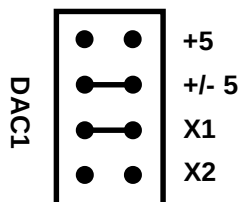

Fig. 1-2 — DAC Output Voltage Range Jumpers, P3 Through P10
These eight header connectors individually set the output voltage range for the eight DAC channels at 0 to +5, ± 5 , 0 to +10, or ± 10 volts. Two jumpers must be installed on each header, one to select the range and one to select the multiplier. The top two jumpers select the range, bipolar (± 5) or unipolar (5). The bottom two jumpers select the multiplier, X2 or X1. When a jumper is on the X2 multiplier pins, the range values become ± 10 and 10. The table below shows the four possible combinations of jumper settings for each DAC channel, and Figure 1-2 shows the factory setting for DAC1 (P3). NOTE: At power up or CPU reset, the analog outputs are set to 0 volts. When the first DAC update command is issued all DAC outputs will be switched on.